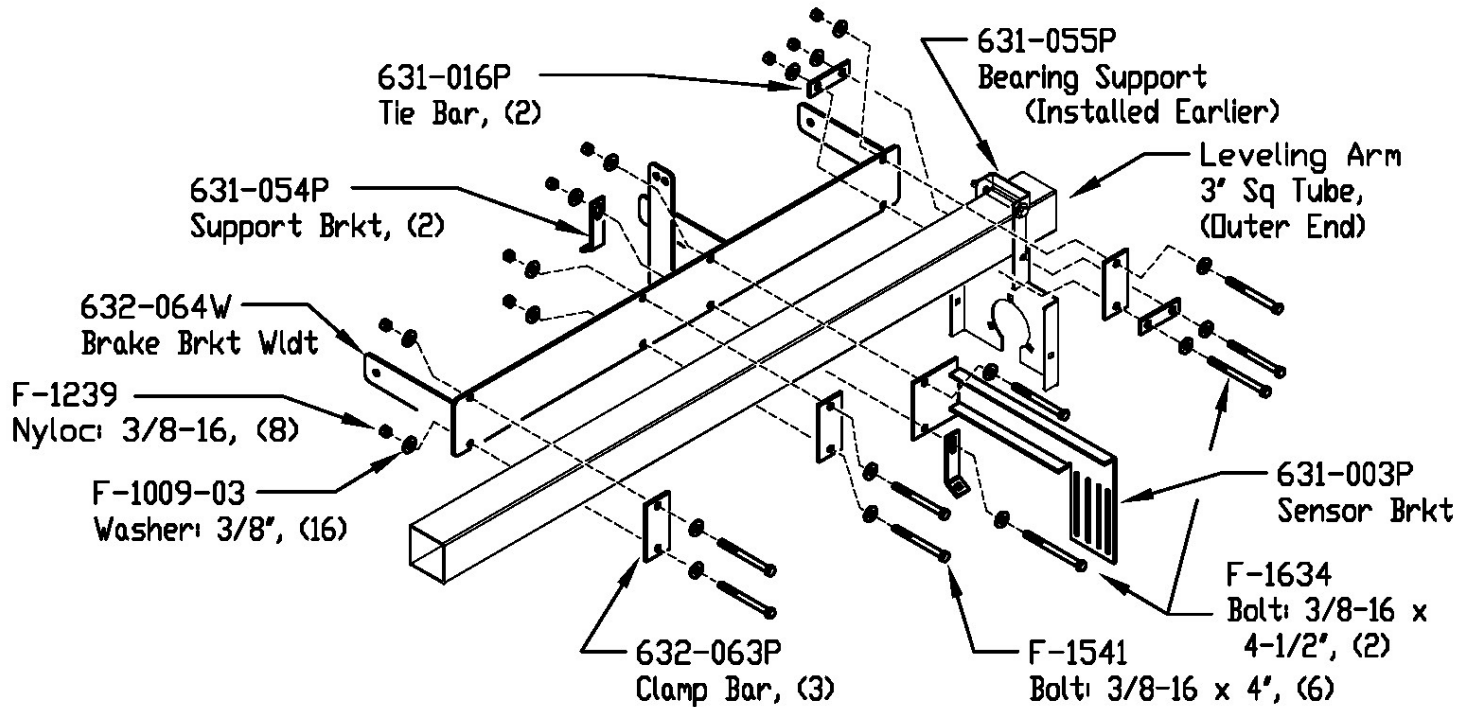

Fig 11.1
**11a. Install the Brake & Drum Mount Bracket Weldment** onto the 3" square tube closest to the bin wall. Mount remaining components as shown in Fig 11.1.